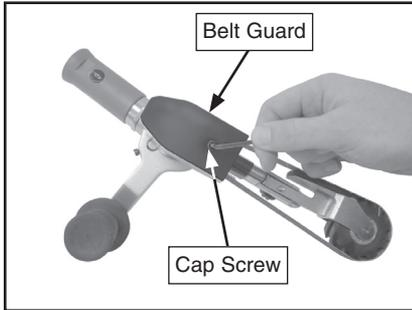

Figure 7. Installing guard.
- Attach the belt guard with the M4-.7 x 6 cap screw, as shown in **Figure 7**.